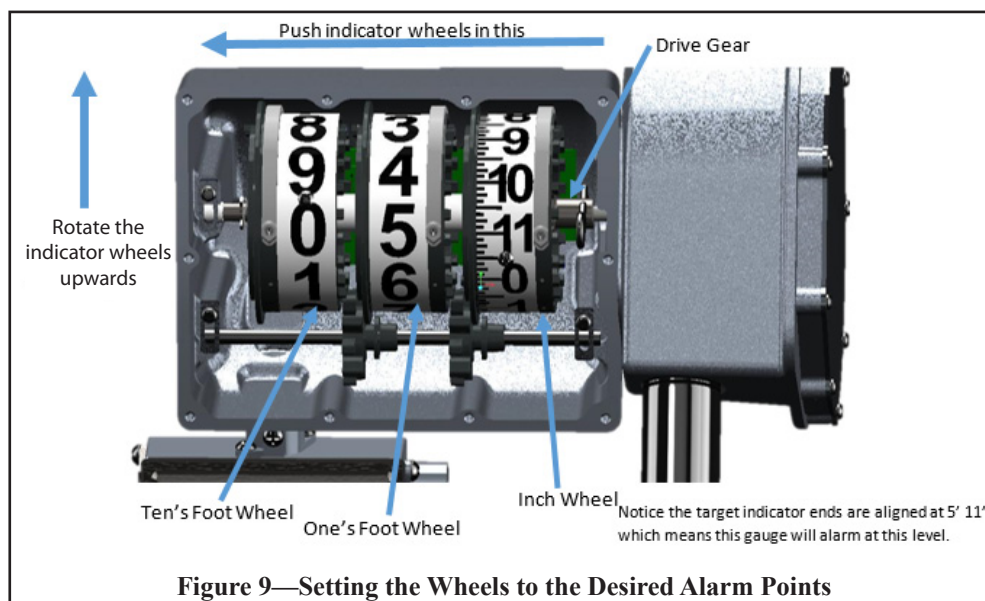
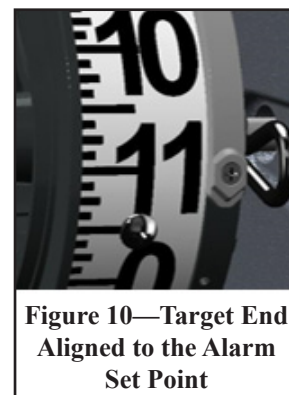

Figure 9—Setting the Wheels to the Desired Alarm Points
Figure 10—Target End Aligned to the Alarm Set Point
5. Push the inch indicator wheel to the left so that it disengages the drive gear and rotate the wheel upwards until you reach the magnet see Figure 9. Now let the indicator wheel seat back into the drive gear. While holding the indicator wheel, remove the magnet, screw and positioner and set these items aside.
7. Place the magnet positioner onto the indicator wheel with the target end aligned with the desired alarm set point, as shown in Figure 10. While holding the indicator wheel, thread the screw through the target end hole and into the matching hole in the indicator wheel. **DO NOT OVER TIGHTEN**, only snug up the screw.
9. Magnet positioners must be evenly placed on the wheels as in Figure 9 and Figure 10.
10. These steps are repeated for the one's foot wheel and the ten's foot wheel, see Figure 9.